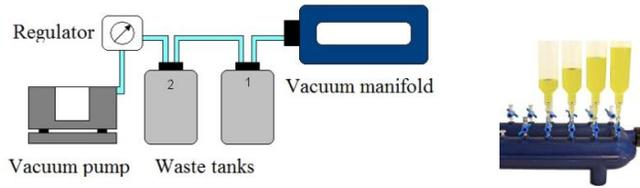

Figure 2. Schematic picture of a vacuum equipment set up.
5. Remove the funnel/column assembly from the tube. Twist off the bottom plug and place the funnel/column assembly on a vacuum manifold with standardized Luer female taper connection as illustrated in Fig.2. Allow the sample to completely pass through the affinity resin by pressure format. At -300 mBar all samples should have passed within 1 minute. If not, increase the vacuum level.